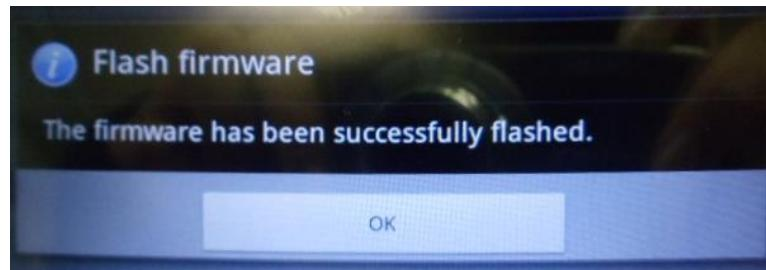

Figure 87: Successful Flash Window
- Once the flashing is done, a message window will tell the user that the flash is successful and complete (Figure 87).